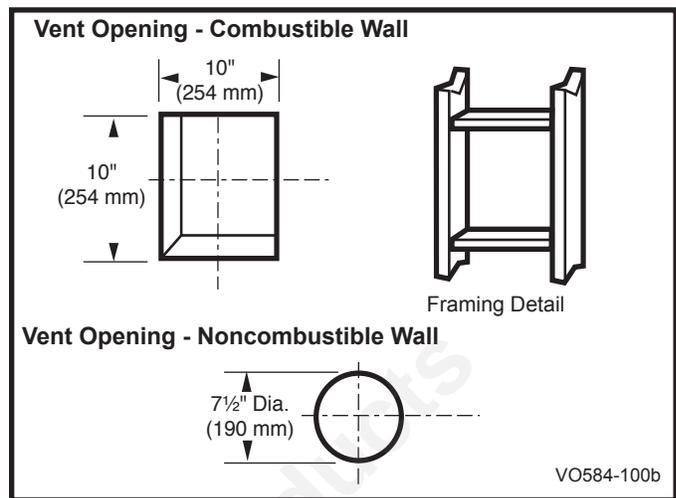

Fig. 21 Locate vent opening. **NOTE: Zero clearance sleeve is required for combustible wall installations.**
1. Locate the vent opening on the wall. Refer to Figures 20 & 21 to determine the top of the opening centerline. It may be necessary to first position the stove and measure to find the hole location. Depending on whether the wall is made of combustible materials, cut the opening to the size shown in Figure 21. Combustible wall openings must be framed as shown in Figure 21.